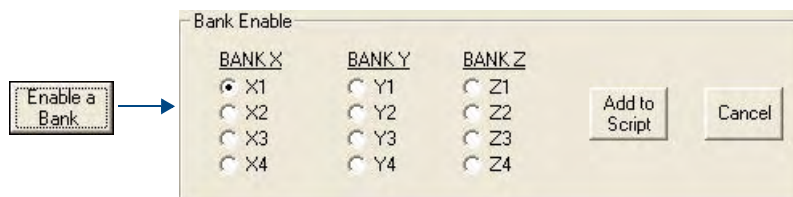

FIG. 67 Displaying the Bank Enable options
2. Click the **Enable a Bank** command button to display the *Bank Enable* options (FIG. 67):